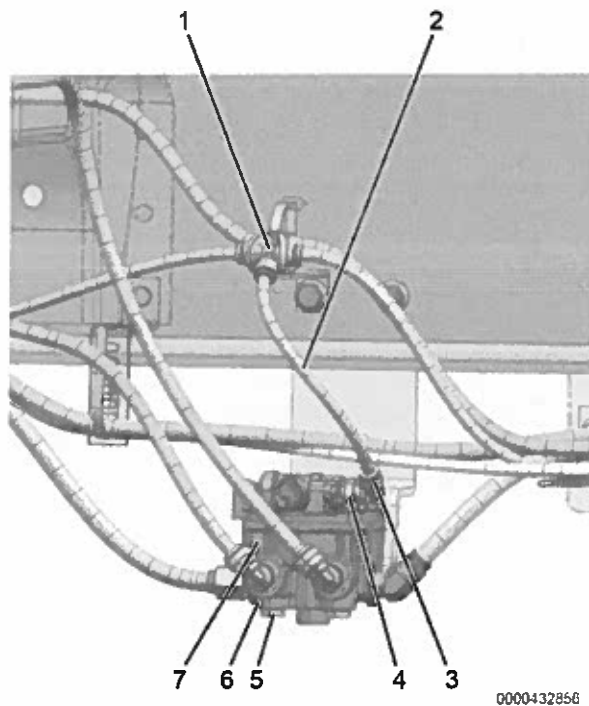

Figure 4. ATR-6 Valve Port Connections
16. Install 3/8-inch plug (Figure 4, Item 5) into ATR-6 steer axle delivery port (Figure 4, Item 6) until hand tight.
18. Install 90-degree elbow (Figure 4, Item 3) to ATR-6 control port (Figure 4, Item 4) until hand tight.
20. Install one end of 12.6-inch (320 mm) length 3/8-inch ORANGE airline (Figure 4, Item 2) into 90-degree elbow (Figure 4, Item 3) on ATR-6 control port (Figure 4, Item 4).
21. Install remaining end of 12.6-inch (320 mm) length 3/8-inch ORANGE airline (Figure 4, Item 2) into 3/8-inch T-fitting (Figure 4, Item 1).